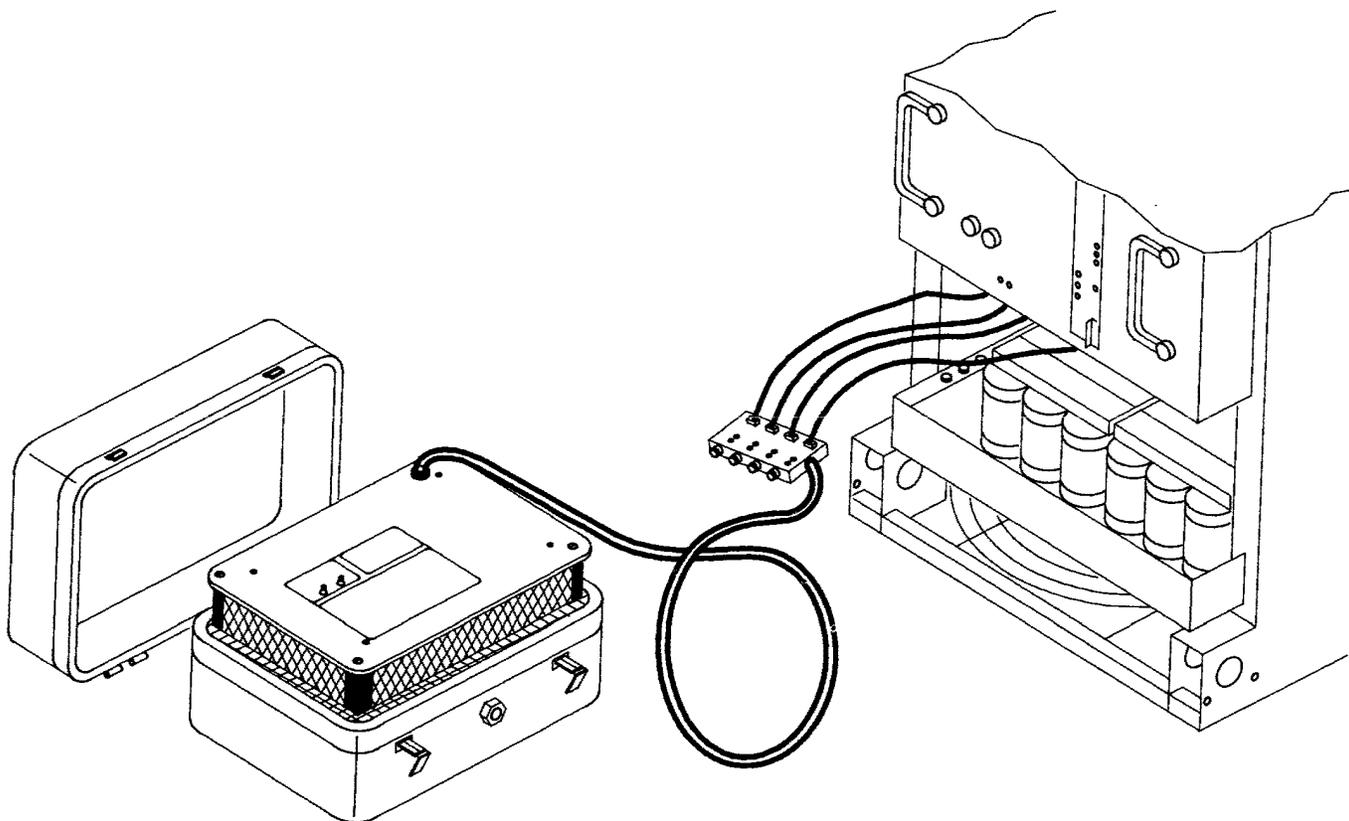

Fig. 1—197A Battery Load Test Set
2.01 The 197A battery load test set consists of a faceplate with switches and LCDs, main printed wiring board, heat sink assembly, and fused test cord with fused test jacks assembled to a common chassis. The chassis is mounted in a blue carrying case that measures 16 inches wide, 12 inches deep, and 10 inches high. The 197A battery load test set weighs approximately 25 pounds. (See Fig. 1.) The front cover of the case is removable when in use to minimize the space required for operation. The case of the test set is vented at the front panel for heat dis-